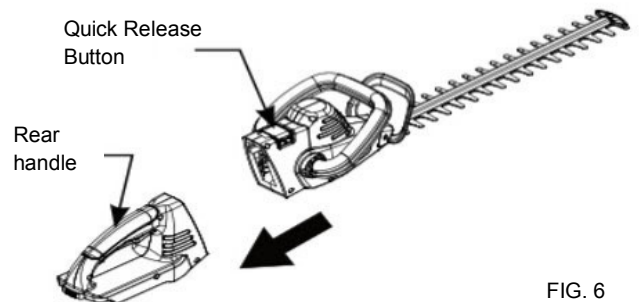

FIG. 6
1. Lift the quick release button. Pull to remove the handle from the cutting head. (Fig. 6)